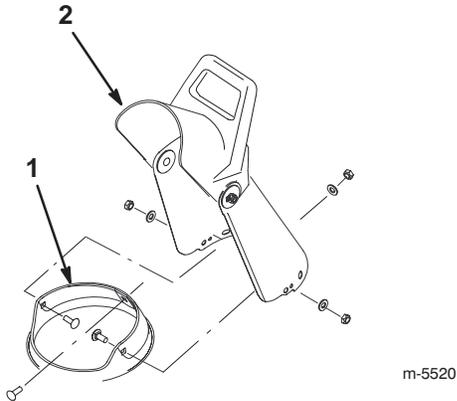

Figure 11
1. Place the discharge chute over the chute ring, and align the hole in the back of the discharge chute with the center hole in the chute ring (Fig. 11).
2. Insert a screw through the center hole of the chute ring from the inside and through the hole in the discharge chute (Fig. 11).